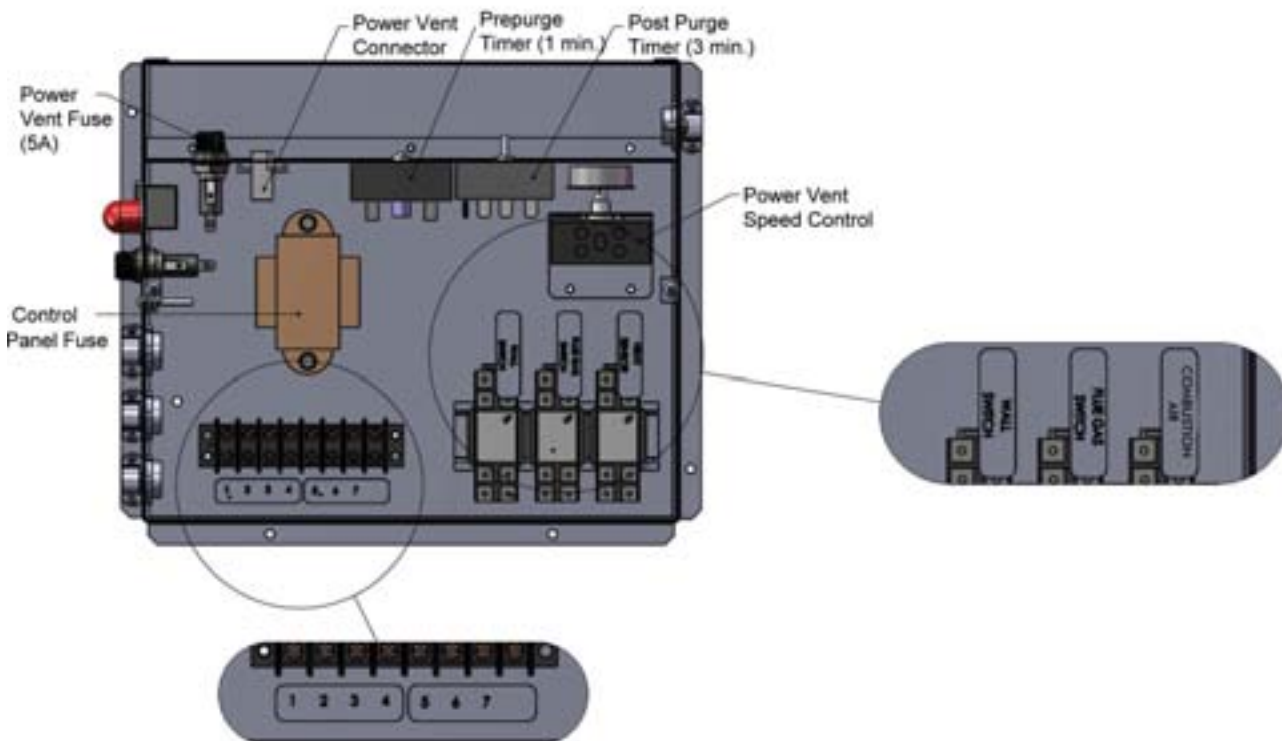

Figure 15a. (Control Panel Overview)
- Wall switch and combustion air LED light up immediately. approximately 30 seconds later when the power vent reaches factory set speed, the flue gas switch LED will light up approximately 1 minute after flue gas LED is lit the gas valve will turn on. You can hear a clicking sound and the Hot Surface Ignitor will glow red. This confirms the control system operation. Not: If the flue gas LED does not light up after 1 minute, slowly increase the power vent speed until the LED turns on. Speed controller located inside the control box, see figure 15a